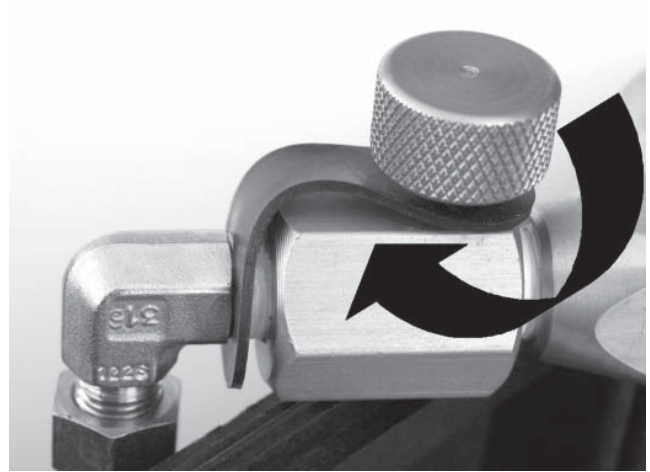

figure 5
5.7. Bleeder valve (712) should be closed (figure 5).